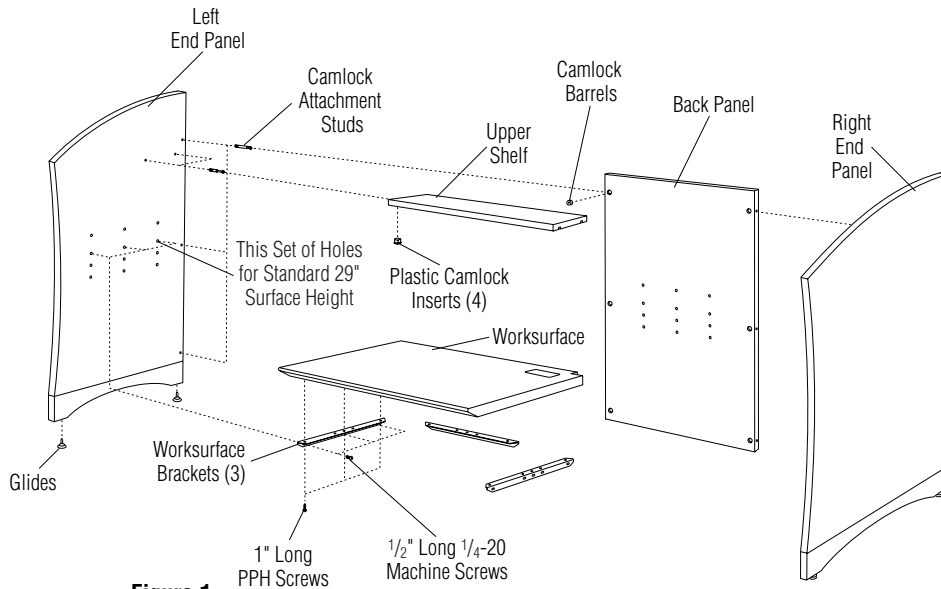

Figure 1
3. Insert three camlock attachment studs in end panel and tighten (Figure 1).
- Note:** ADA units will have 4 pre-drilled holes (use the highest set). All other units will have pre-drilled holes for 25", 27" and 29" heights (Figure 1).